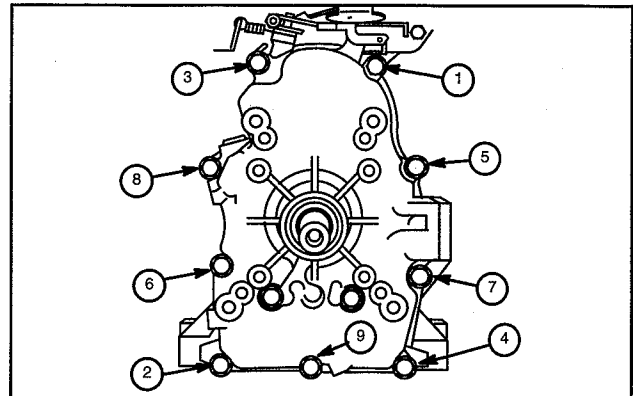

Fig. 7 – Install Crankcase Cover Or Sump
3. Install crankcase cover or sump with new gasket, Fig. 7.